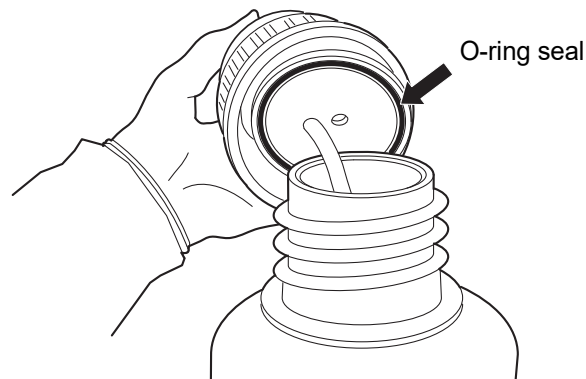

Figure 8-16 Inspect waste bottle O-ring seal
9. **O-ring seal** — Before reattachment, inspect the O-ring seal located on the inside of the waste cap for any debris. See Figure 8-16.